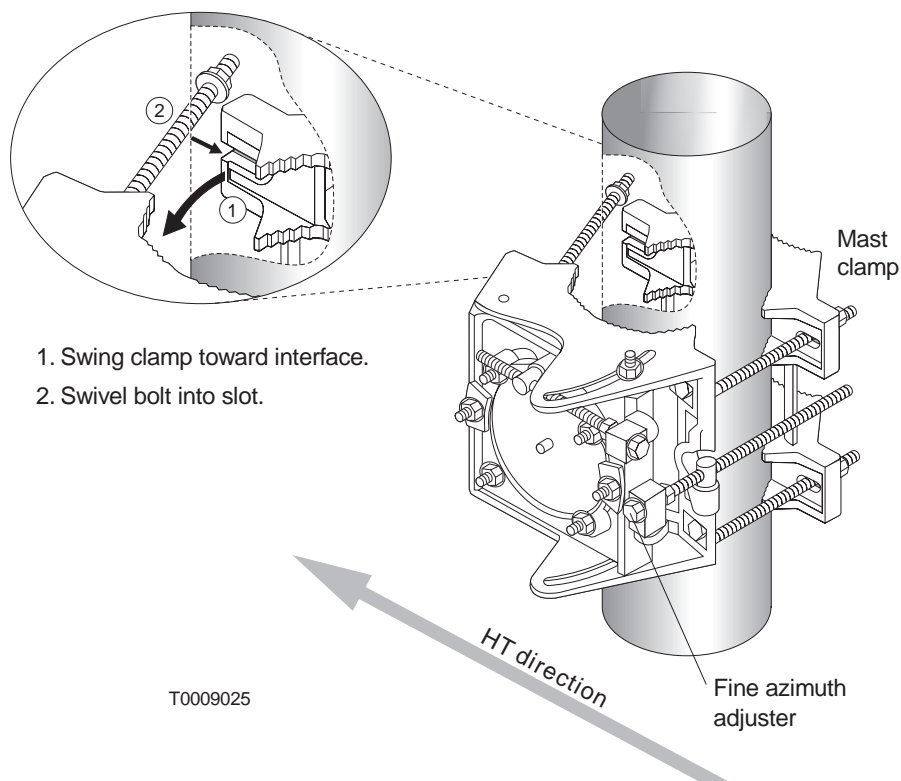

Figure 6-7 Installing the antenna mount
3. Place the mount on the mast, as shown in figure 6-7.
The fine azimuth adjuster must be on the side of the mount opposite the HT direction, as illustrated in figure 6-7. This allows you to make azimuth and elevation adjustments from behind the antenna, so you can stay out of the beam area.
4. Swing the clamp toward the interface until you can “capture” the clamp by swiveling the free–swinging bolts into the two slots in the clamp, as shown in figure 6-7.